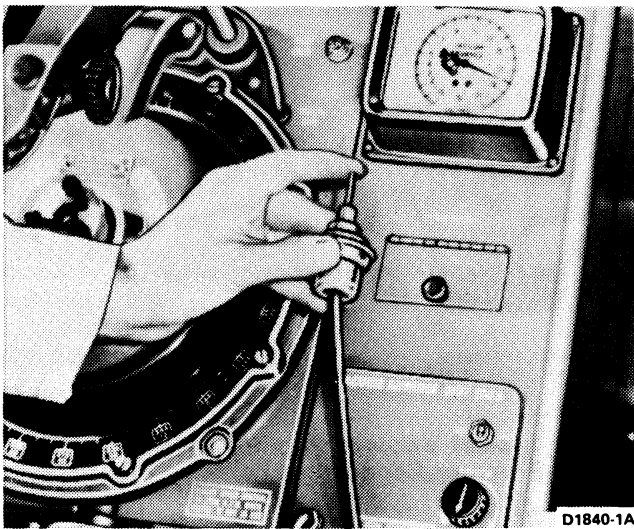

FIG. 9 Testing Transmission Vacuum Unit for Leakage
4. Adjust the engine idle speed to the specified rpm, using the carburetor idle adjustment screw. If the engine idle speed cannot be brought within limits, check the throttle and downshift linkage for a binding condition. If linkage is satisfactory, check for vacuum leaks in the transmission diaphragm unit (Fig. 9) and its connecting tubes and hoses. Check all other vacuum operated units (such as the power brake) for vacuum leaks. Refer to Brake-Section Group 12.
To check the vacuum unit for diaphragm leakage, remove the unit from the transmission. Use a distributor tester equipped with a vacuum pump (Fig. 9). Set the regulator knob until the vacuum gauge reads 18 inches with the end of the vacuum hose blocked off.
Connect the vacuum hose to the manifold vacuum port as shown in Fig. 9. If the gauge still reads 18 inches, the vacuum unit diaphragm is not leaking. A second leakage check can be made as the hose is removed from the transmission vacuum unit. Hold a finger over the end of the control rod. When the hose is removed, the internal spring of the vacuum unit should push the control rod outward. If the vacuum diaphragm needs replacing, install a new unit that has been released for service. Vacuum diaphragm assembly identification is given at end of this Part.